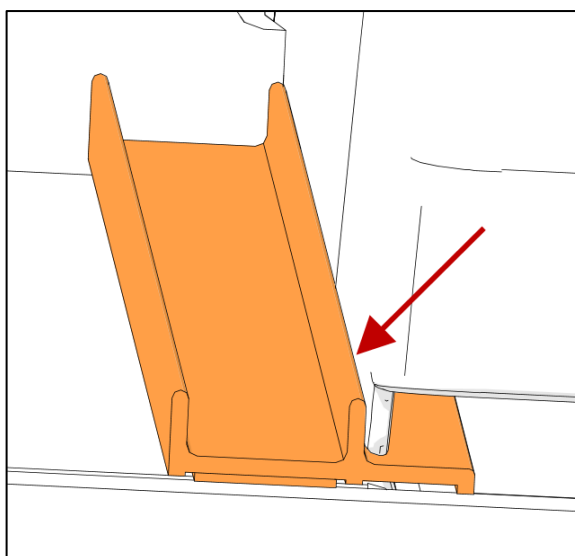

FIGURE 17
28. For the longitudinal position, mate the middle lip of the strip with the side face of the fender (see Figure 17 that shows the bottom view).